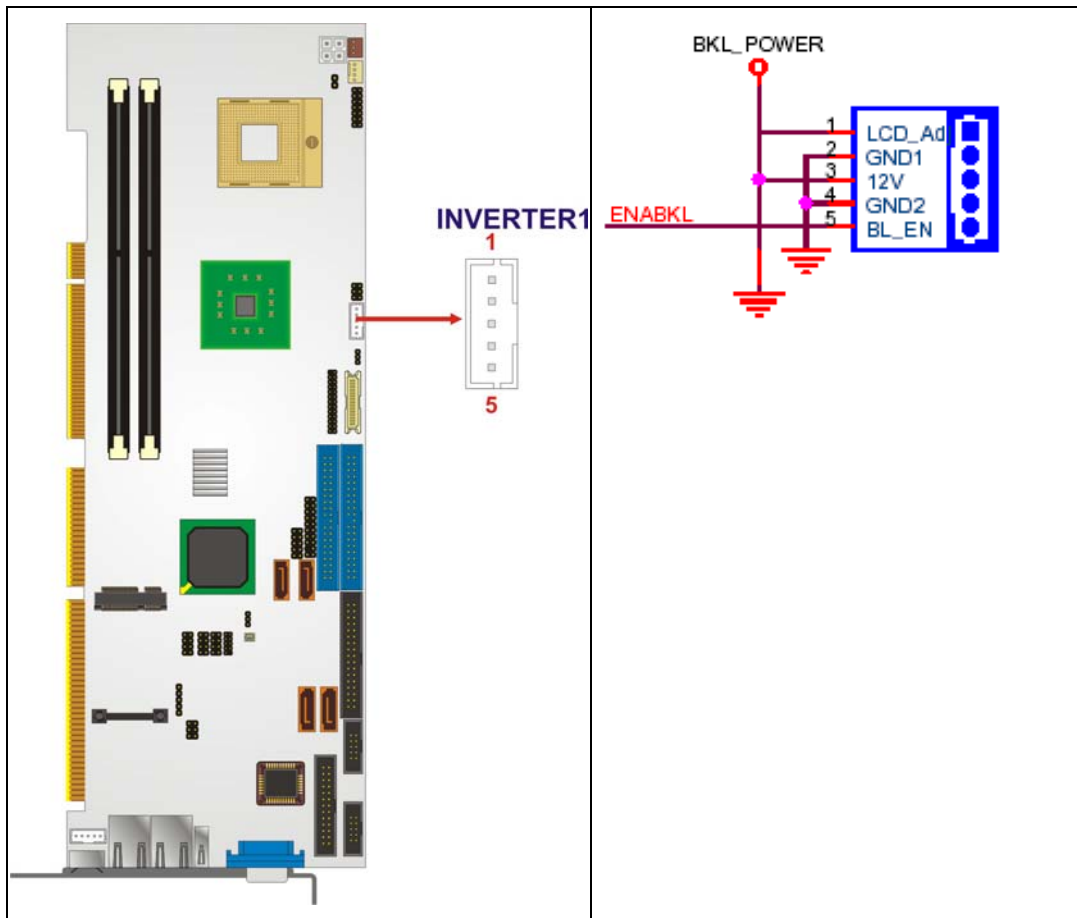

Figure 4-11: Inverter Connector Location
- CN Location:** See **Figure 4-11**